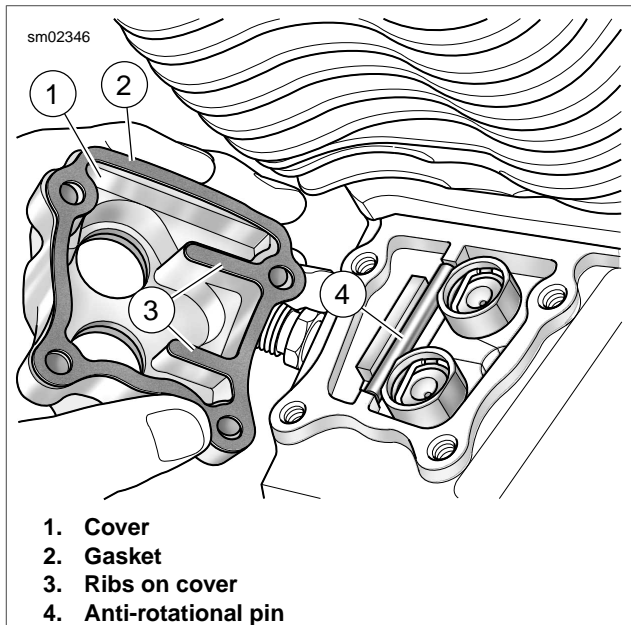

Figure 3-45. Installing Lifters
2. See Figure 3-45. Place the anti-rotational pin (4) on the machined flat between the blocks cast into the crankcase.
3. Install a **new** lifter cover gasket (2) aligning the holes in the gasket with those in the cover (1).